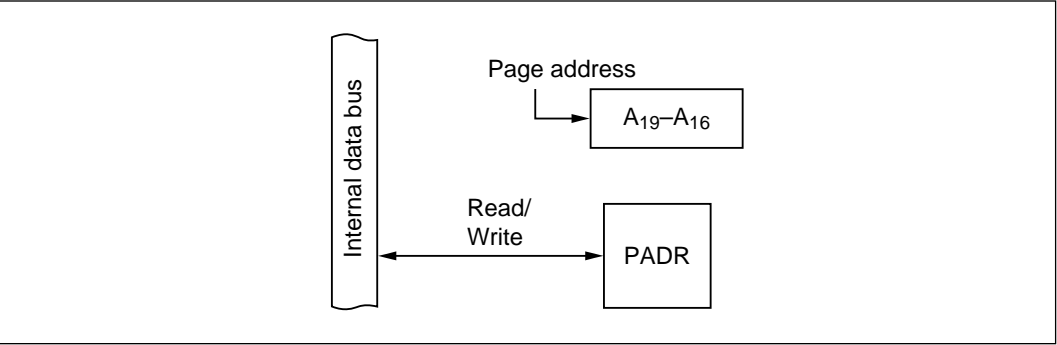

Figure 10-69 Page Address Bus (Modes 3 to 5)
(7) Page Address Bus (PA₃ to PA₀; Modes 3 to 5): Figure 10-69 shows a block diagram illustrating the page-address-bus function. Table 10-53 indicates register read/write data. When PA₃ to PA₀ are used for A₁₉ to A₁₆ output, values written in the port A data register (PADR) have no effect. When read, PADR returns the value written in PADR.